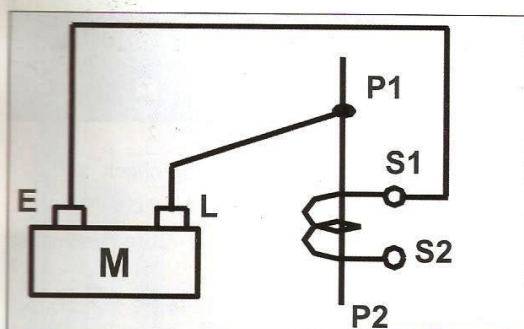

Fig 3 Primary to Secondary
- 2 Primary to Secondary: Refer Fig 3. As in (1), the minimum acceptable value is  $(kV+1) \text{ M}\Omega$  for this test as well.